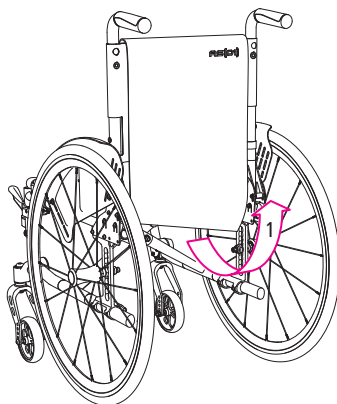

Fig. 4
1. Firstly, unfasten the Velcro fastener on the lower end of the back cushion (under the seat) (1, Fig 4).